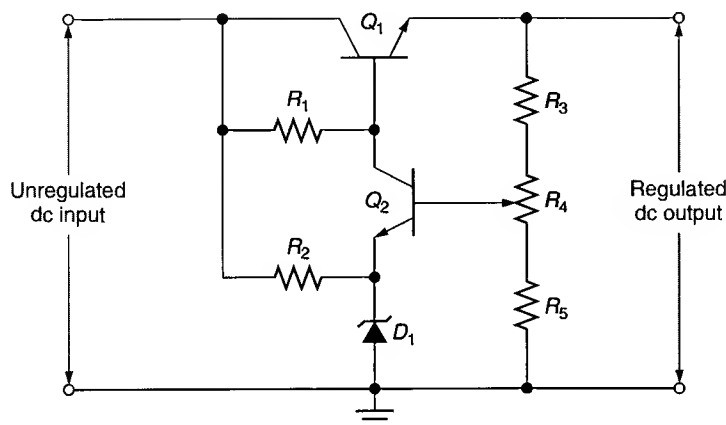

FIGURE 21.7 Schematic diagram for a basic series feedback regulator.
The schematic diagram for a series feedback regulator is shown in Figure 21.7. The *sample and adjust circuit* is the voltage divider that consists of R_3 , R_4 , and R_5 . The reference voltage is set by the zener diode. Q_2 detects and amplifies the difference between the reference and sample voltages and adjusts the conduction of the pass-transistor accordingly.
The operation of the circuit shown in Figure 21.7 is best illustrated by describing its response to a change in load resistance. If load resistance *increases*, load voltage starts to increase. The voltage divider is in parallel with the load, so the voltage at the base of Q_2 also increases. The increase in $V_{B(Q2)}$ increases the conduction through the transistor and its collector resistor (R_1). The increased conduction causes $V_{C(Q2)}$ to decrease, which reduces the value of $V_{B(Q1)}$. The reduction in $V_{B(Q1)}$ reduces the conduction through the pass-transistor, causing load current to decrease. The decrease in load current offsets the initial increase in load resistance.
8. How would the circuit shown in Figure 21.7 respond to slight variations in line voltage?